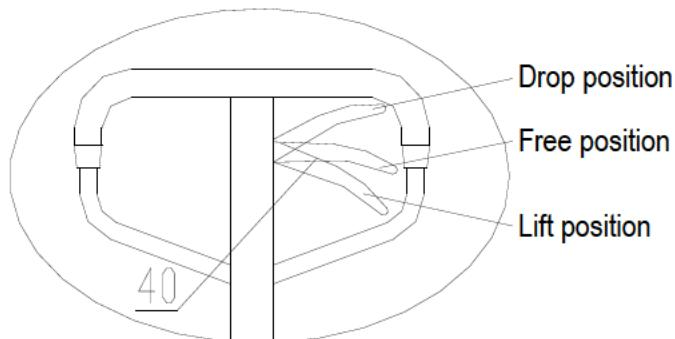

Fig. 5
- After the truck is assembled, pump the handle and operate different positions of the hand lever 40 to examine that the lifting, free position and dropping positions work normally. (Fig. 5)
- When the hand lever 40 is placed on the lift position, the truck can be lifted. If you pump the handle, the truck will lift. (Fig. 5)
- When the hand lever 40 is placed on the free position, the truck can be moved. If you pump the handle, the truck will neither lift nor drop. You can use the truck to move the cargo. (Fig. 5)
- When the hand lever 40 is placed on the drop position, the truck forks will drop automatically. (Fig. 5)